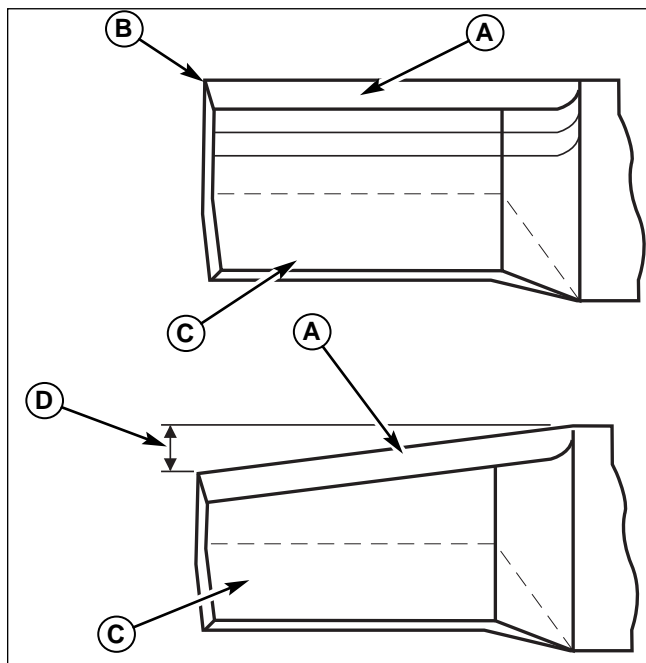

Figure 26. inspecting the Mower Blade Tips
2. Inspect the mower blade (Figures 26 & 27). **Discard the mower blade if it has any of the below conditions.**
- A.) Has more than .5" (12,7 mm) of the mower blade metal removed from previous sharpening or wear (D, Figure 26).